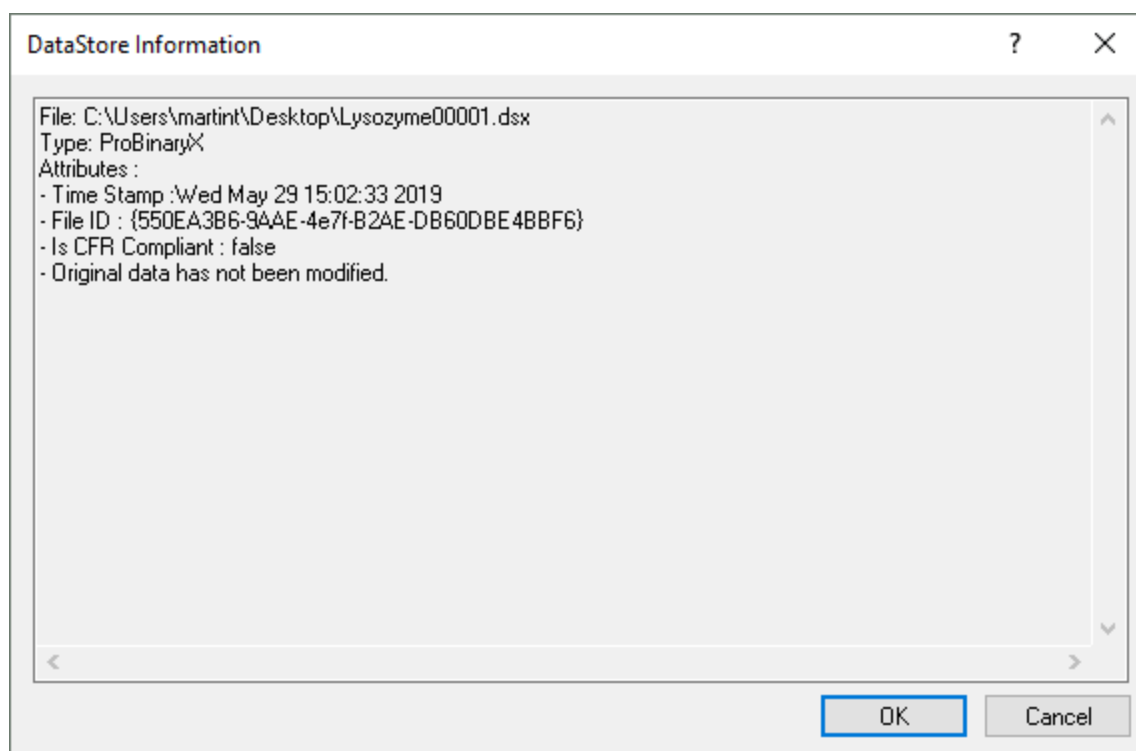

Figure 67: The DataStore Information dialog
- **Remarks...** opens the **Remarks and Comments** dialog (Figure 67) which shows information entered for reference by the user in the Remarks and Comments^[86] dialog in the SCP^[67], sample information provided by the user via the Sample and Cell Description dialog^[86] (sample description, concentration, cell type and path length) and supplement information that has been recorded automatically such as the instrument serial number.